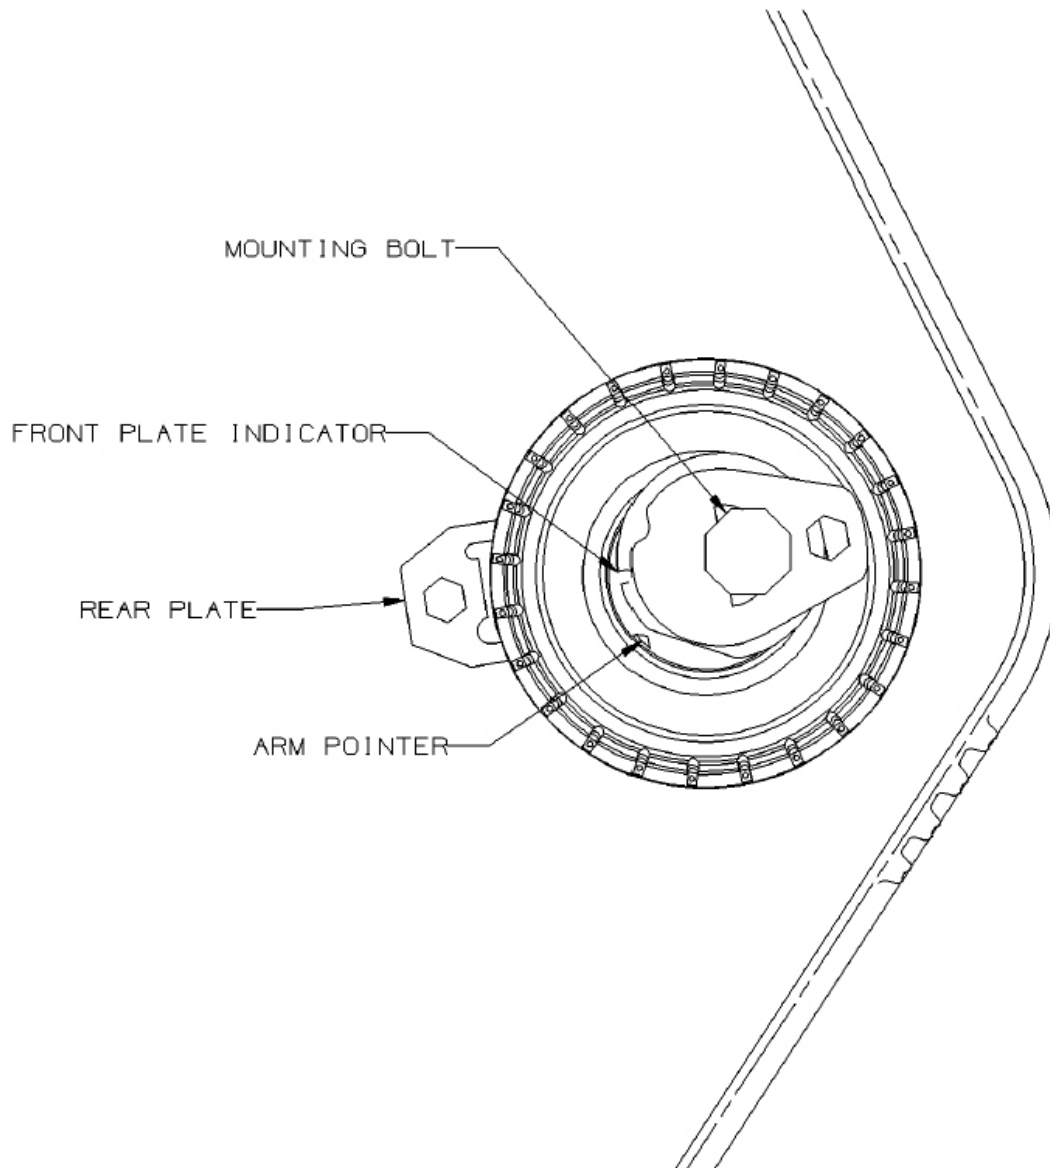

Figure 1: Tensioner shown placed on the mounting bracket.
4. Place the tensioner in position with the M8 bolt; ensure that the rear plate of the tensioner is rotated to maximize clearance (See Figure 1).